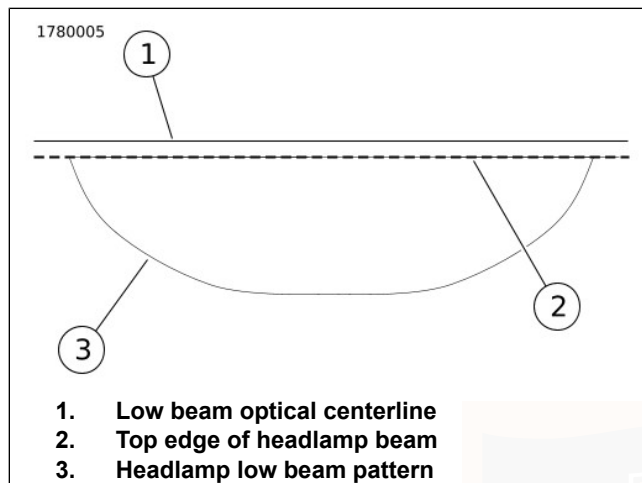

Figure 119. Alignment of Headlamp Low Beam
2. See Figure 119. Turn the adjuster CW or CCW to adjust the light beam (3) until the top edge meets horizontal line (2).